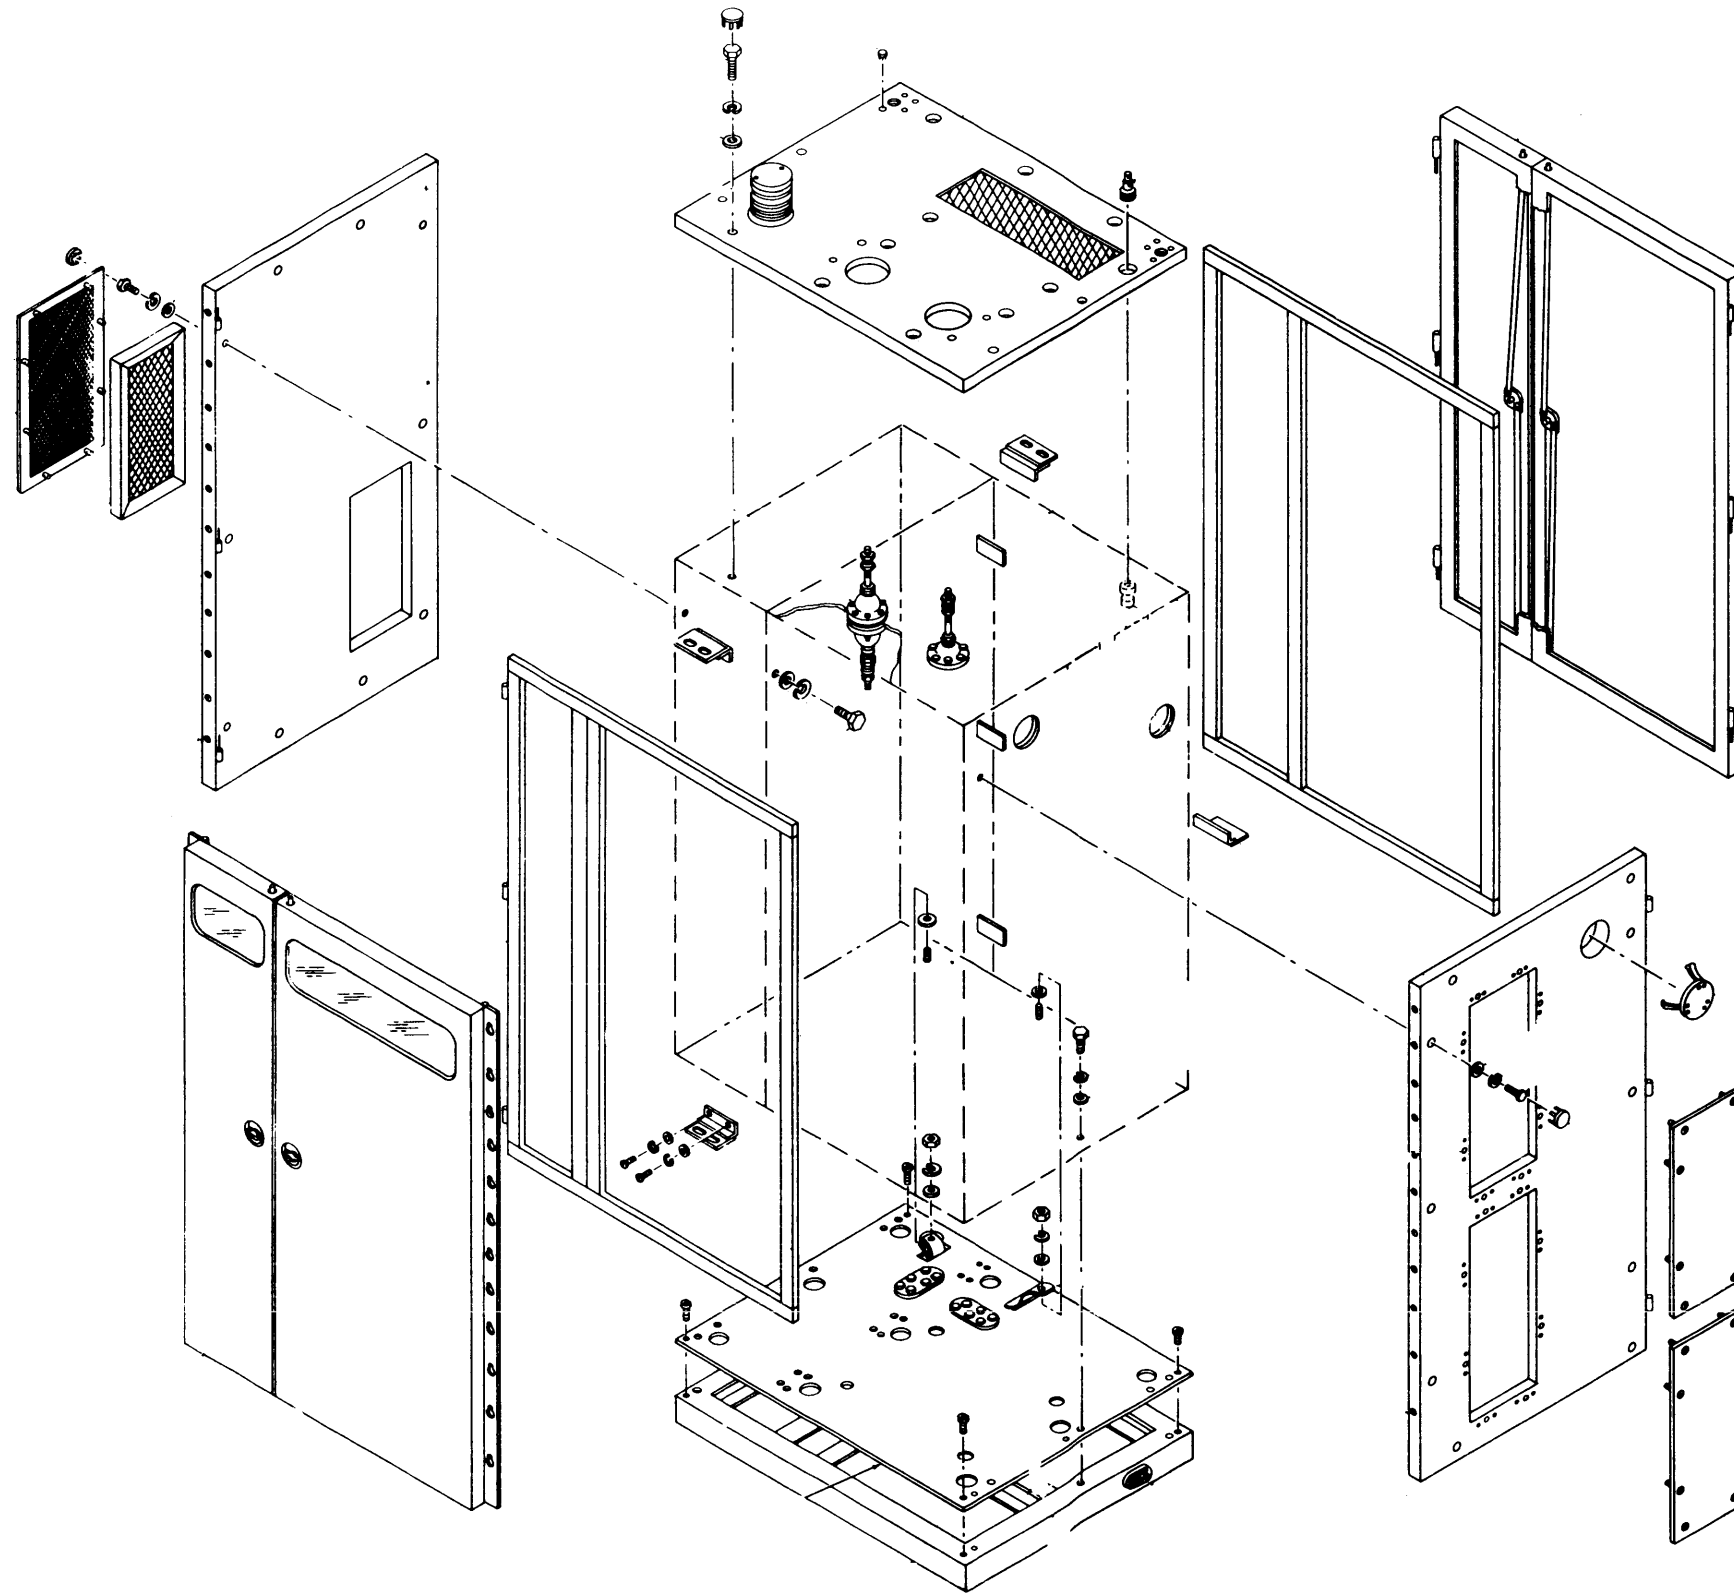

Figure 2-16. Exterior Covers and Trim, Installation Diagram.
- a. Appropriately position cover top MS-1699 (contained in crate 12) on top of the frames (see figure 2-16).
- (2) Mount the resultant door latch assemblies on top and bottom, front and rear, of transmitter (see figure 2-16).
Refer to figure 2-16.